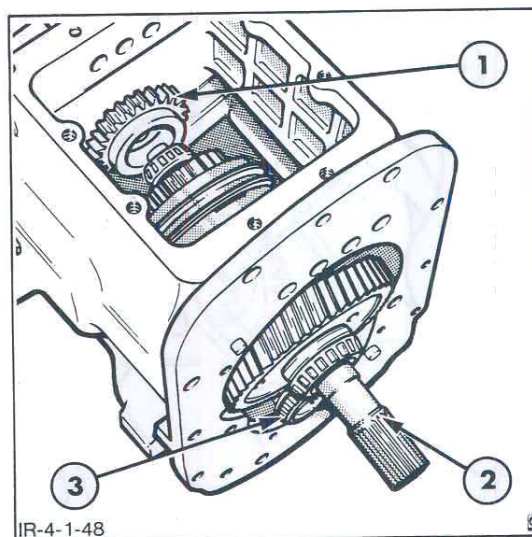

Figure 49
1. Release the cord retaining the output shaft and countershaft assemblies together then lift the output shaft assembly rearwards from the transmission case as shown in Figure 49.